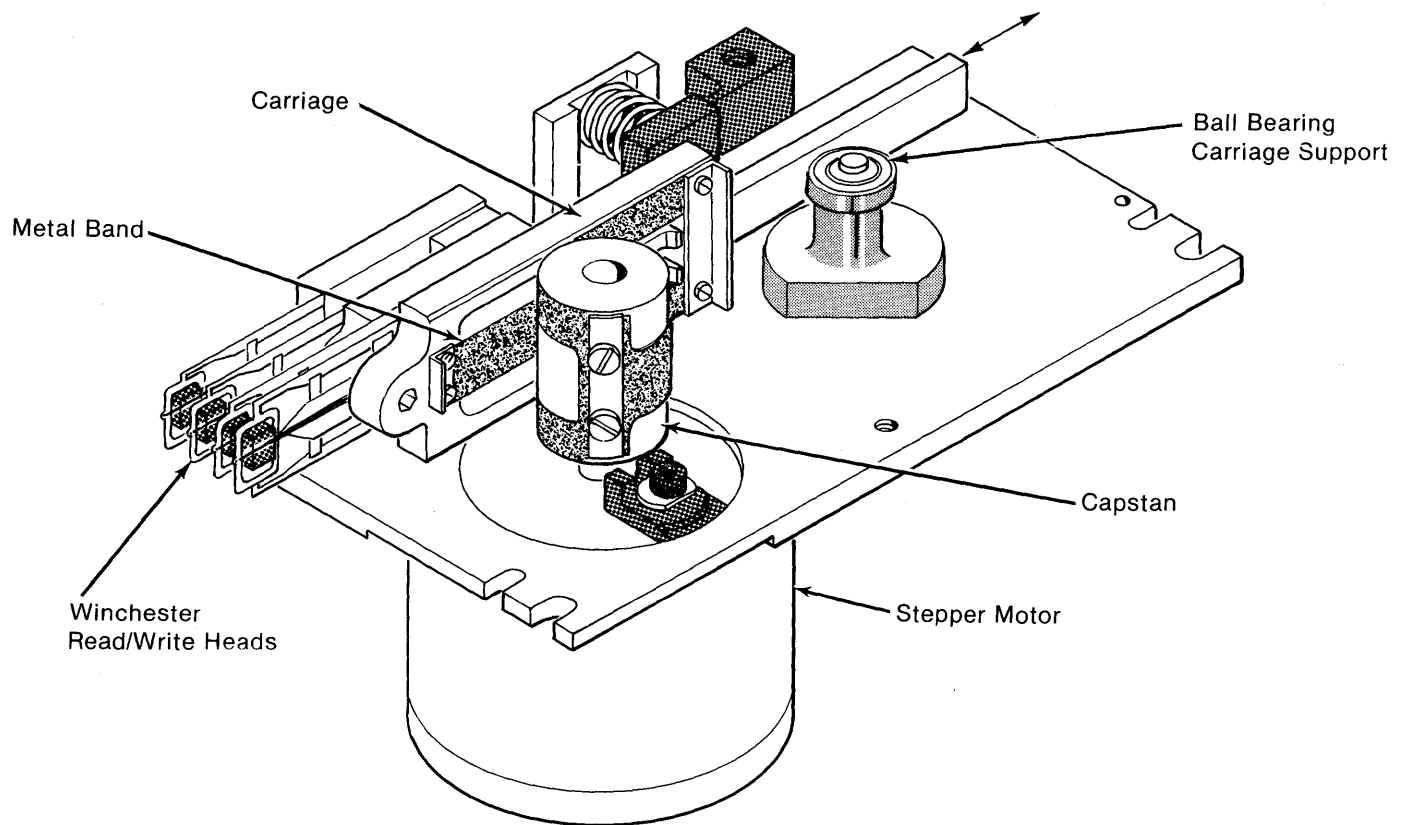

Figure 2 Positioning Mechanism
2.5 Positioning Mechanism (Figure 2)